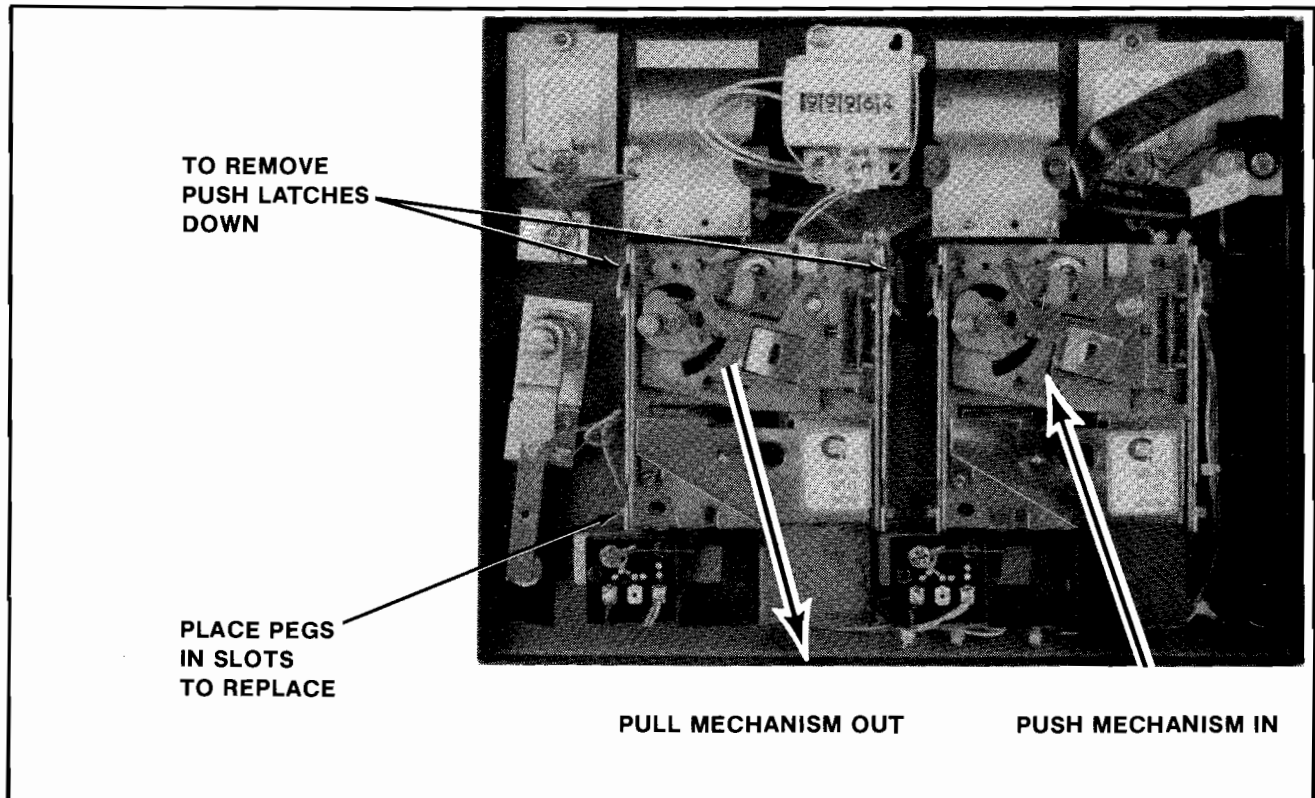

Figure 4-1 Removing & Replacing the Coin Acceptor
3. Remove the coin acceptor mechanism as shown in Figure 4-1.
9. Reinstall the coin acceptor to the coin door. See Figure 4-1.
3. Remove the coin acceptor mechanism(s) as shown in Figure 4-1.